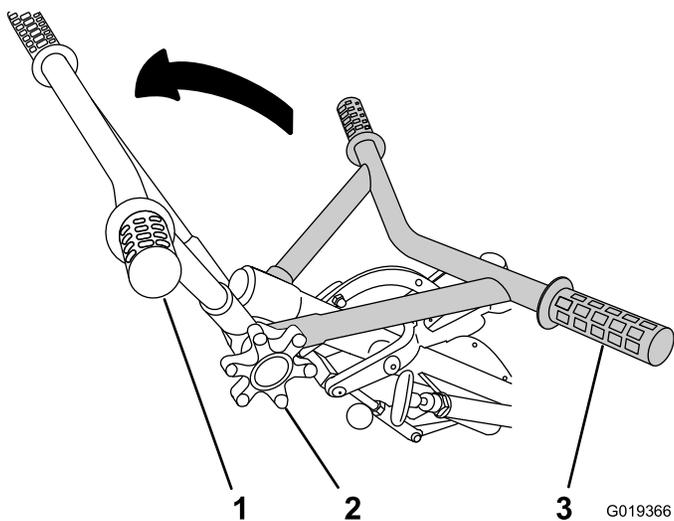

Figure 11
2. Place the handle to the desired position and turn the handle-adjustment knob clockwise to tighten the handle (Figure 11).